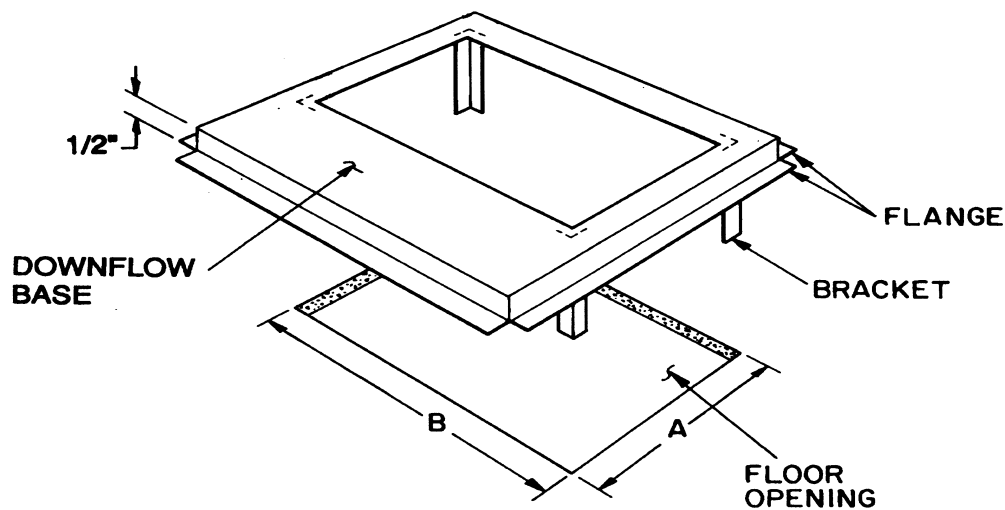

Fig. 1—Downflow Base
1. Cut a hole in floor large enough for clearance of downflow base brackets. See **Figure 1** and **Table 1** to determine clearance dimensions.